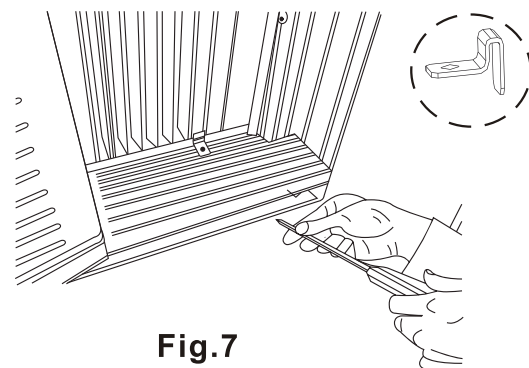

Fig.7
- A. Place the frame lock between the frame extensions and the window sill as shown (Fig.7). Drive $3/4$ " (19mm) or $1/2$ " (12.7mm) locking screws through the frame lock and into the sill.